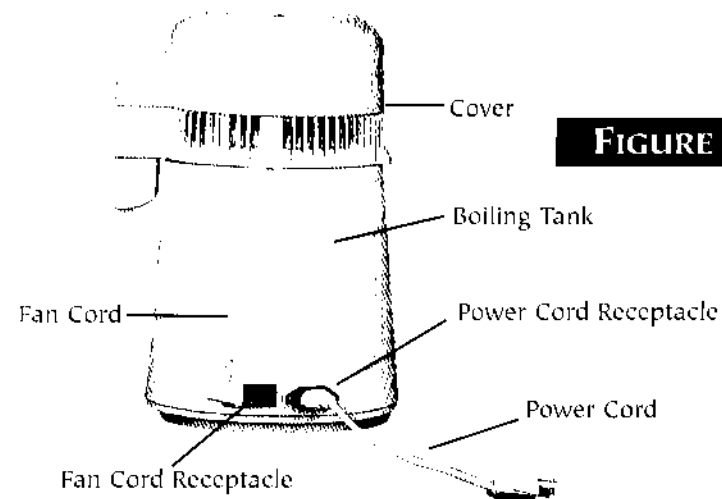

FIGURE 1
1. Set Distiller on a level countertop or table. Unplug fan cord from fan cord receptacle. Lift cover off and set aside (fig.1).
6. Replace cover and plug fan cord into fan cord receptacle (fig.1).
8. Fully plug power cord into power cord receptacle (fig.1) then into appropriate wall outlet. See **IMPORTANT SAFEGUARDS**, pages 2-3, if using extension cord.
2. Unplug fan cord from fan cord receptacle. Remove cover and set aside (fig. 1).